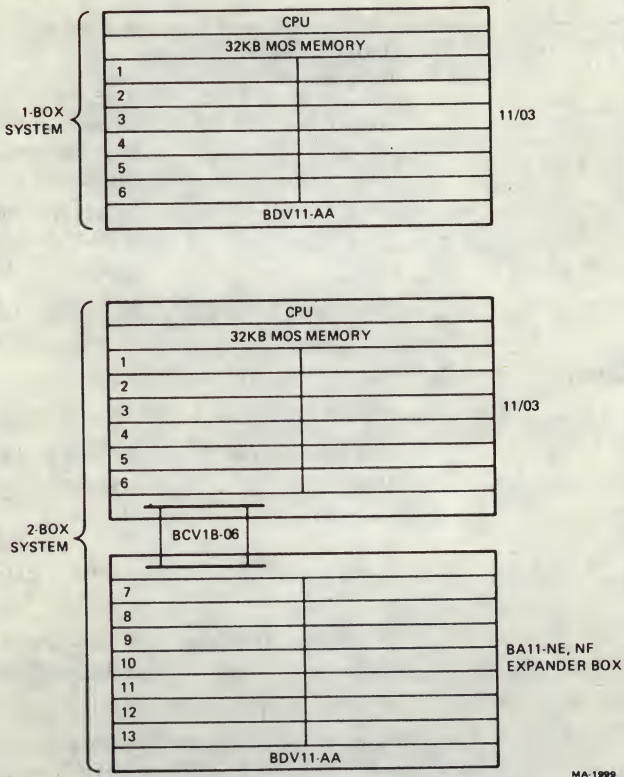

Figure 4 Configuring Large Box
3. Loosen the cable strain reliefs and open the rear door of the box to install the LSI-11 bus expansion cable assemblies. Two cable assemblies are used. Table 3 describes the assemblies and tells where to insert the assembly modules. (Figure 4 illustrates module placement.) When inserting the modules, make sure the connectors are on top.